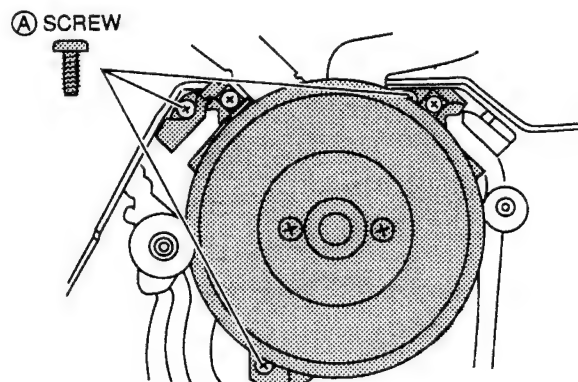

Fig. 3-15
1. Remove the three (A) screws as shown in Fig. 3-15.